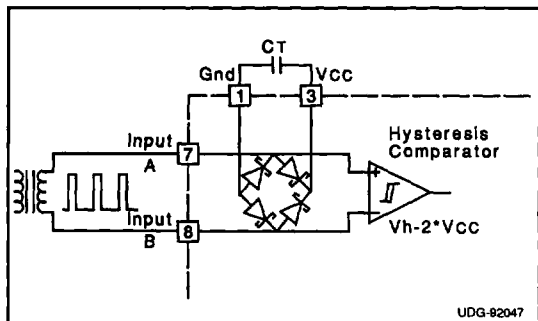

FIGURE 1 - Input Stage
**INPUTS:** Figure 1 shows the rectification and detection scheme used in the UC1725 to derive both power and signal information from the input waveform.  $V_{\text{CC}}$  is generated by peak detecting the input signal via the internal bridge rectifier and storing on a small external capacitor,  $C_1$ . Note that this capacitor is also used to bypass high pulse currents in the output stage, and therefore should be placed directly between pins 1 and 3 using minimal lead lengths.